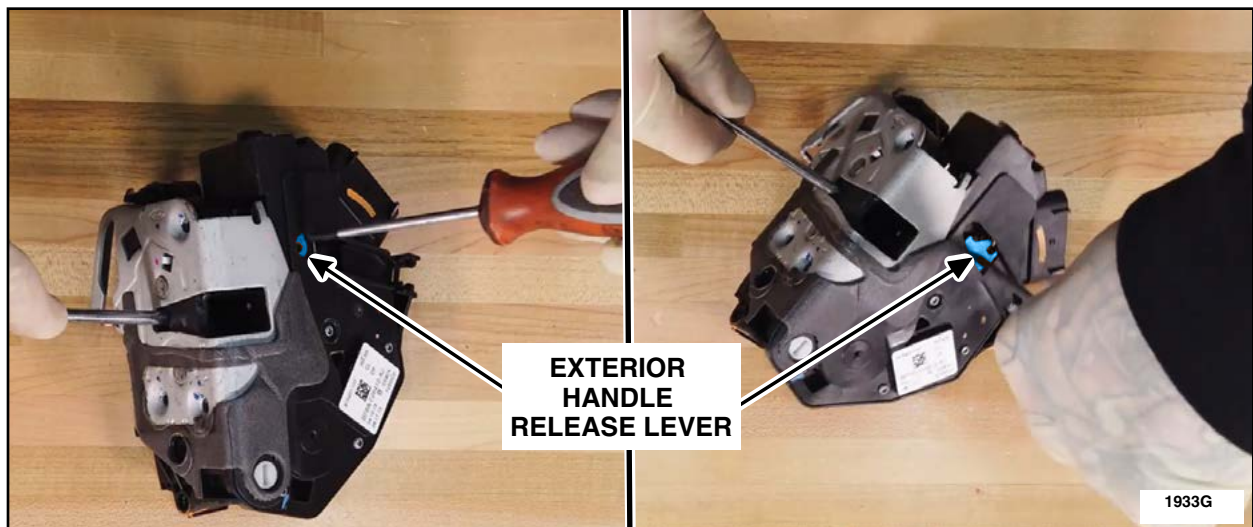

FIGURE 23
5. After the latch has been placed in the latched position, take a second screwdriver and actuate the exterior handle release lever. See Figure 23.